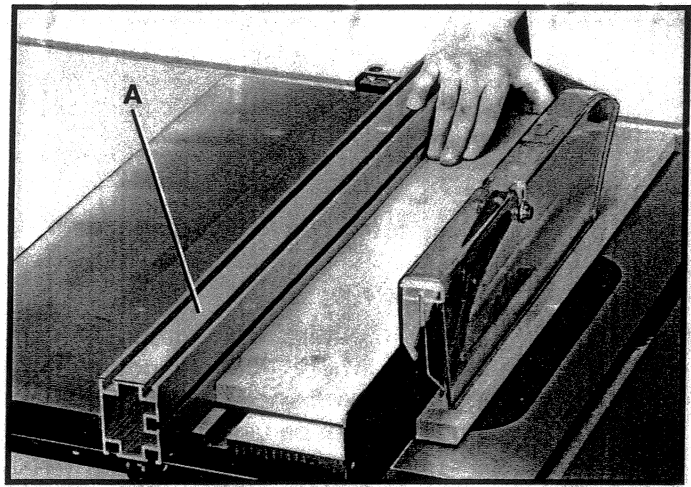

Fig. 82
Ripping is the operation of making a lengthwise cut through a board, as shown in Fig. 82, and the rip fence (A) is used to position and guide the work. One edge of the work rides against the rip fence while the flat side of the board rests on the table. Since the work is pushed along the fence, it must have a straight edge and make solid contact with the table. The saw guard must be used. The guard has anti-kickback fingers to prevent kickback and a splitter to prevent the saw kerf from closing behind the blade.
Start the motor and advance the work holding it down and against the fence. Never stand in the line of the saw cut when ripping. Hold the work with both hands and push it along the fence and into the saw blade as shown in Fig. 82. The work can then be fed through the saw blade with one or two hands. After the work is beyond the saw blade and anti-kickback fingers, the hand is removed from the work. When this is done the work will either stay on the table, tilt up slightly and be caught by the rear end of the guard or slide off the table to the floor. Alternately, the feed can continue to the end of the table, after which the work is lifted and brought back along the outside edge of the fence. The cut-off stock remains on the table and is not touched with the hands until the saw blade is stopped, unless it is a large piece allowing safe removal. When ripping boards longer than three feet, it is recommended that a work support be used at the rear of the saw to keep the workpiece from falling off the saw table.